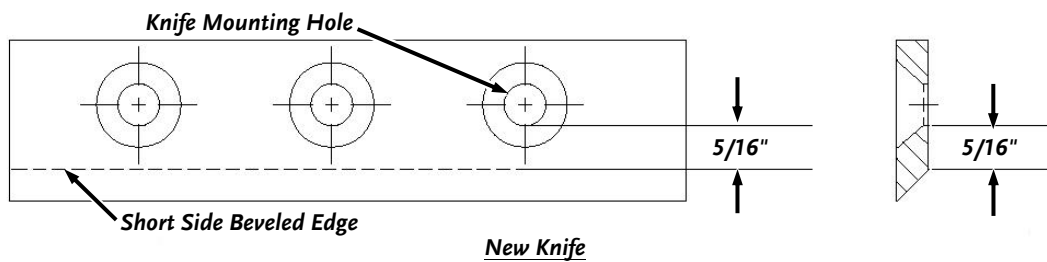

Figure 28
- A new Chipper Knife has a $5/16$ " measurement between the short side bevel edge and the Knife mounting holes (**Figure 28**).